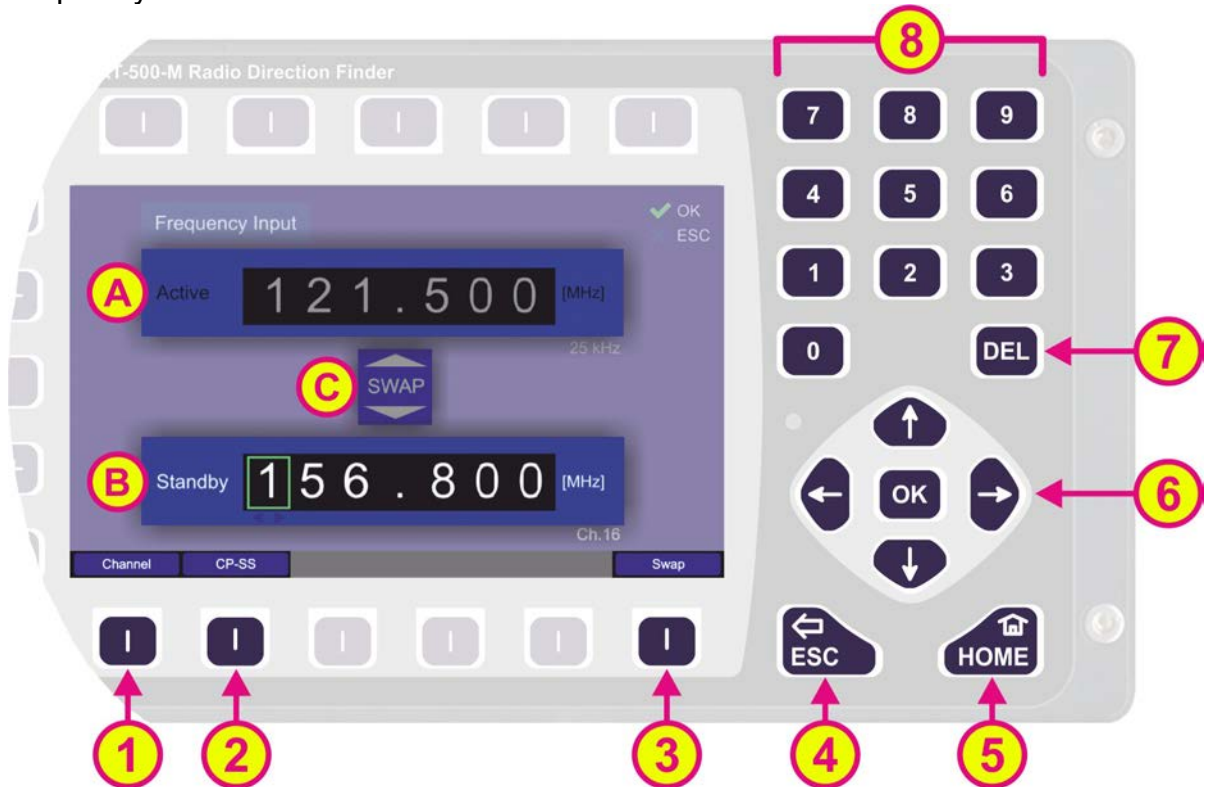
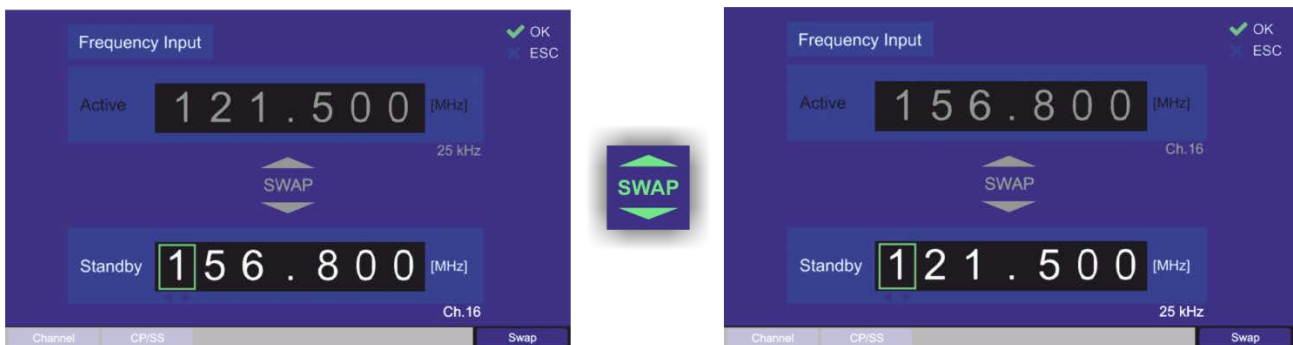

Fig. 8 Input of a new frequency
Fig. 9 Swap frequencies
- Section “Active... [MHz]”, which shows the currently active frequency (s. Fig. 8, field A).
- Section “Standby ... [MHz]”, which allows the input of a new frequency (s. Fig. 8, field B).
- “SWAP” function (s. Fig. 8, field C and position 3) allows switching between the two displayed frequencies.
The input of digits can be done with the numerical buttons on the front of the device (s. Fig. 8, field 8).
The arrow buttons “up” and “down” (s. Fig. 8, field 6) allow the input of the frequency/channel, using a sophisticated input scheme. Depending on the other digit values, that are already set, the system allows the selection of only correct numbers for the current digit.
- The “DEL” button (s. Fig. 8, position 7) deletes the whole input.
- Pressing the “OK” button (s. Fig. 8, field 6) adopts the frequency value as the new “Standby” value. This is not possible until the input is complete and valid from the first to the last digit (s. warnings in Table 7).
- Pressing “Swap” hotkey (s. Fig. 8, position 3 and field C) sets the “standby” frequency to the active bearing frequency and the previously active frequency is set to “standby” (s. Fig. 9).
- Pressing the “CP/SS” hotkey (s. Fig. 8, position 2) opens the dialog variant for selecting “Cospas-Sarsat” frequency groups (description s. 6.1.2.5).
- Pressing the “ESC” button (s. Fig. 8, position 4) closes the dialog without saving changes.
- Pressing “HOME” button (s. Fig. 8, position 5) closes the dialog without saving changes and leads to the bearing page.
Generally, channel input works the same way as frequency input: the input dialog is divided into a section for the active channel and a section for the new channel (s. Fig. 8, fields A and B).
The hotkey “CP-SS” (s. Fig. 8, position 2) opens a drop-down menu with selectable Cospas-Sarsat frequency groups. The currently active frequency group is highlighted in green, whereas the other groups are gray. By pressing the “up” and “down” arrows (s. Fig. 14, position 3), the green frame moves and marks next frequency group, which can be selected by pressing “OK”. Pressing “ESC” will close the dialog without adopting the new frequency.